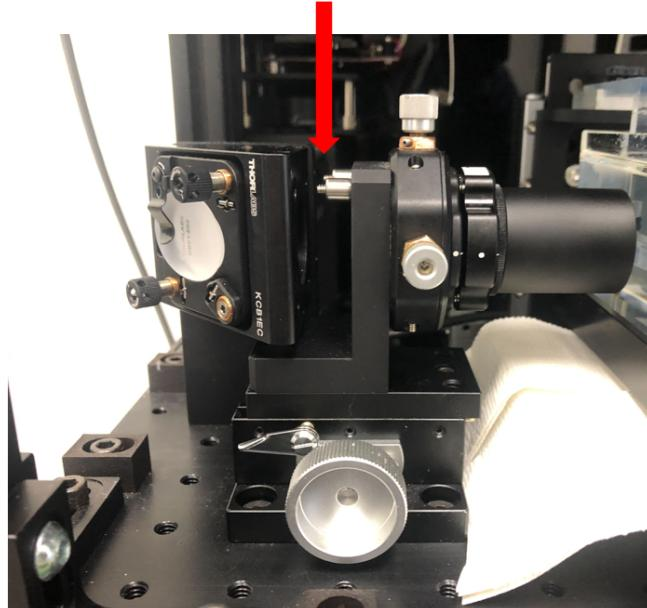

Figure 2. Locations of paper for coarse alignment.
3. Place a paper after the front mirror on the left side (Figure 2) and make sure you can see a laser spot on the paper.